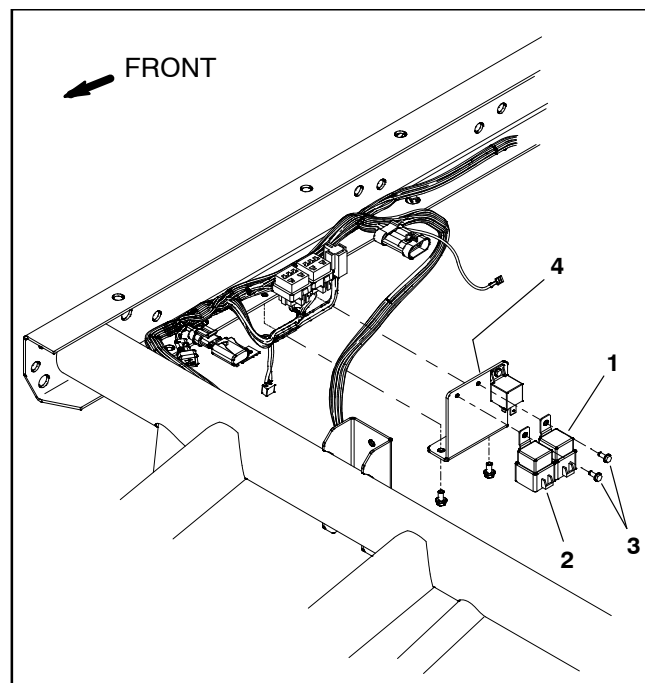
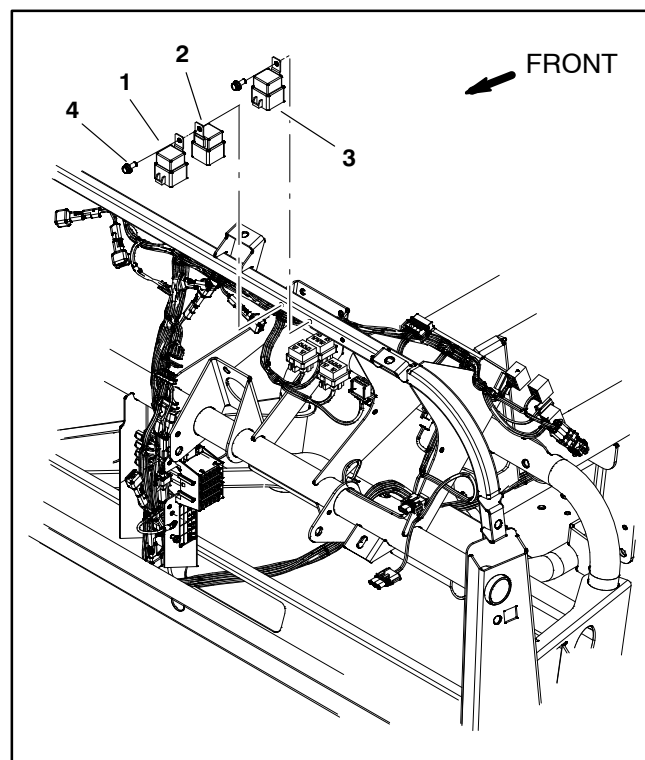

Figure 25
Figure 26
The start and fan relays are attached to the relay bracket under the right side of the bed near the engine (Fig. 25). The other relays are located behind the dash panel (Fig. 26).
2. If relay is located on relay bracket (Fig. 25), raise bed and install bed support on bed lift cylinder to prevent bed from lowering. Stop engine and remove key from ignition switch.
3. If relay is located behind the dash panel (Fig. 26), remove hood to access relay (see Hood in the Service and Repairs section of Chapter 5 – Chassis).